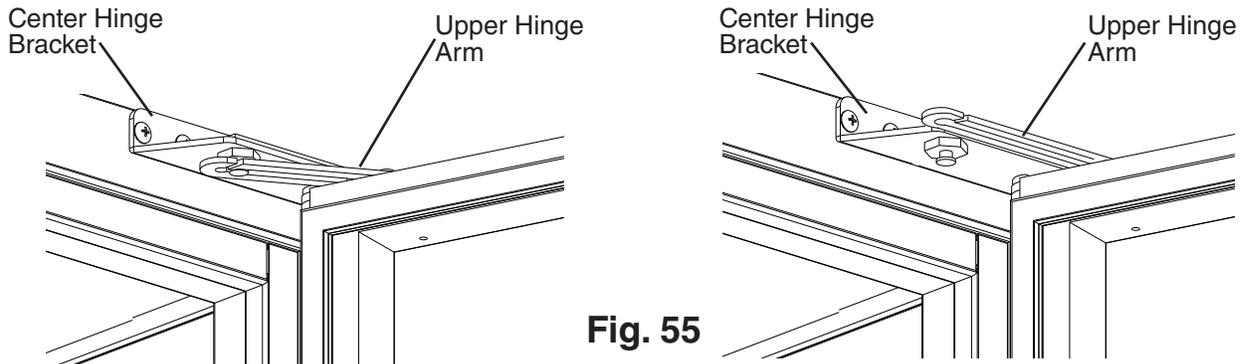

**Fig. 53**
- 3) At the center hinge, place wrench B on the tension rod and hold (prepare for tension pressure), then using wrench A, loosen the lock nut. See Fig. 53.